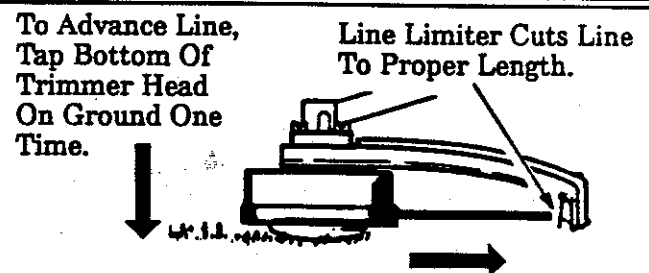

Figure 16
- Always keep the shield in place when the tool is being operated. Figure 16.
3. Tap the bottom of the trimmer head lightly on the ground one time. See Figure 16. Approximately 2 inches of line will be advanced with each tap.